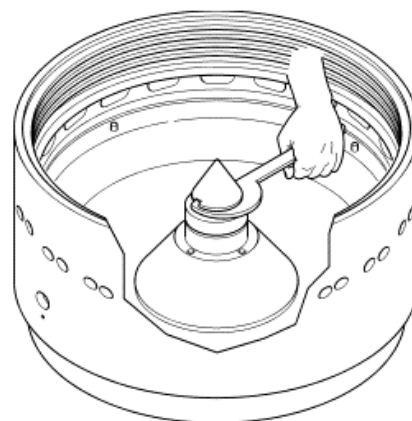

Figure 6.4
- 3) With the suitable spanner (09.190.0) screw as more as possible the **bowl body nut** (left handed thread). By the hammer (09.030.0) give some blows to the spanner to be sure that the nut is well fixed (fig. 6.4).